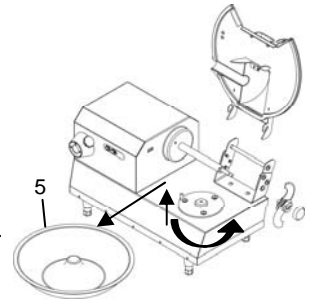

Fig. 6.3.7
- Turn the tank "5" counter-clockwise (Fig. 6.3.7) in order to release it from its seat